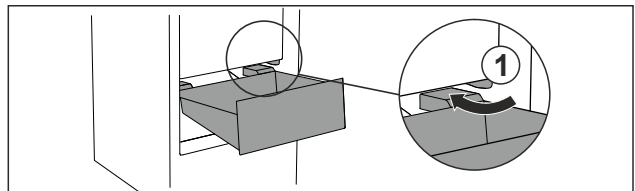

Fig. 85
- ▶ Guide drawer in at an angle around the stoppers Fig. 85 (1).